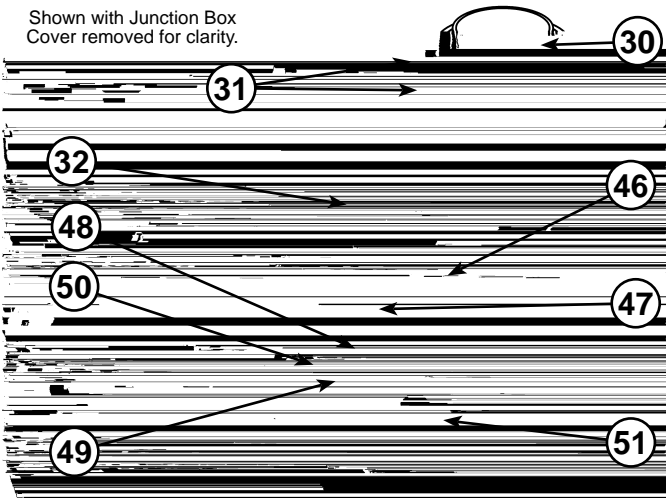

Figure 56.
- 30 \*\*\*\*Rubber Coupling (see Figure 4) (see also **Figure 56**)
- 31 Gear Clamp (see Figure 4) (see also **Figure 56**)
- 32 \*\*\*Blower with Power Cord (see Figure 4) (see also **Figure 56**)
- 46 Air Tubing (Intake) (see Figure 4) (see also **Figure 56**)
- 47 Blower High Limit Switch (see Figure 4) (see Figure 56)
- 48 Intake Air Pressure Switch (NC) (inside box) (see Figure 4) (see also **Figure 56**)
- 49 Capacitor (see Figure 4) (see also **Figure 56**)
- 50 Air Tubing (Exhaust) (see Figure 4) (see also **Figure 56**)
- 51 Exhaust Air Pressure Switch (NO) (inside box) (see Figure 4) (see also **Figure 56**)